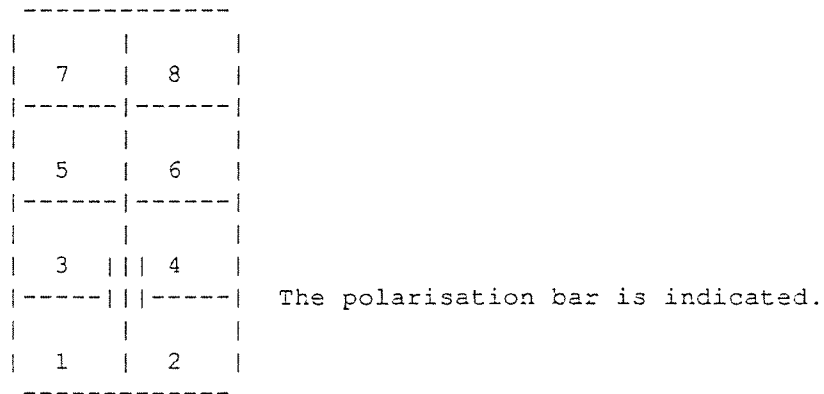

Fig. 8-1 TOP VIEW of PCB header plug for PL5, PL6 and PL7.
2. The OMTI 5060 controller chip (5F, see the component location diagram, fig. 8-1) should be revision number 20506-2 or 20506-B.